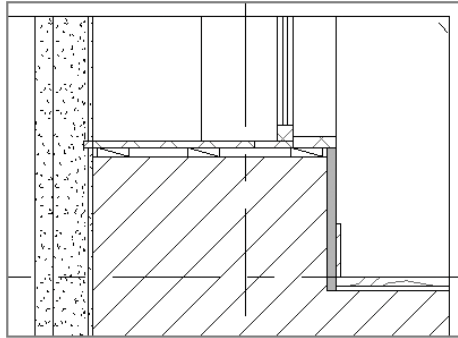

FIGURE 11.14 The sill detail with base
11. Navigate to the view Exterior Window Sill, Typ. if it's not already open, and place the baseboard at the corner of the gypsum board and finished floor. The detail looks like Figure 11.14.